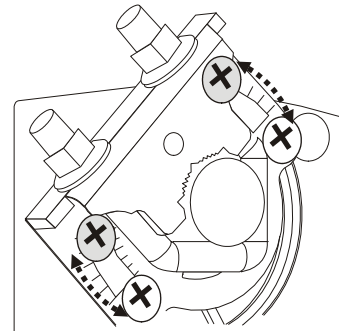

Fig. 8. Setting the mechanical end limits
4. Set the mechanical end limits of the W7751H (see Fig. 8). When the W7751H closes, the damper will thus rotate CCW until the mechanical end limits are reached.
4. Set the mechanical end limits of the W7751H (see Fig. 8). When the W7751H closes, the damper will thus rotate CW until the mechanical end limits are reached.